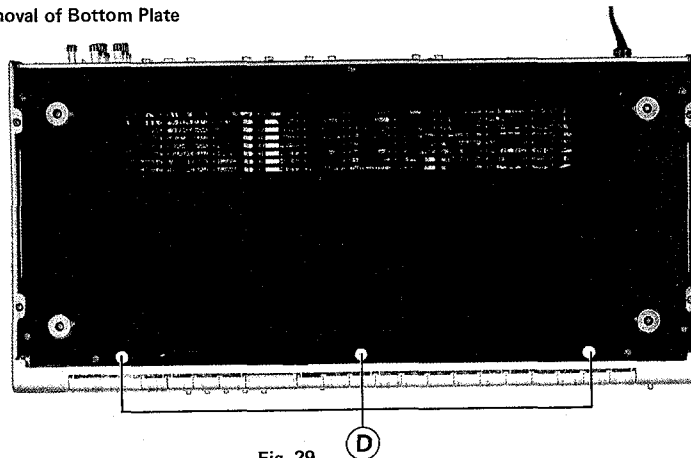

Fig. 29
- 1) Remove 3 screws (D) located on Bottom Plate. See Fig. 29.